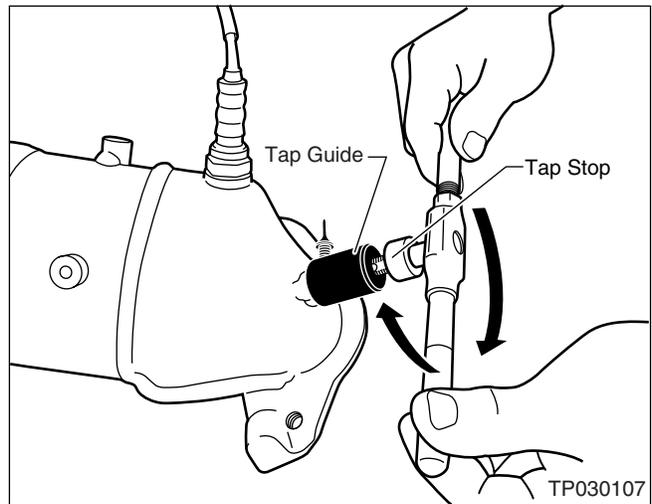

Figure G5
6. Tap new threads in the drilled-out hole with the special Tap from the Thread Repair Kit (see Figure G5).